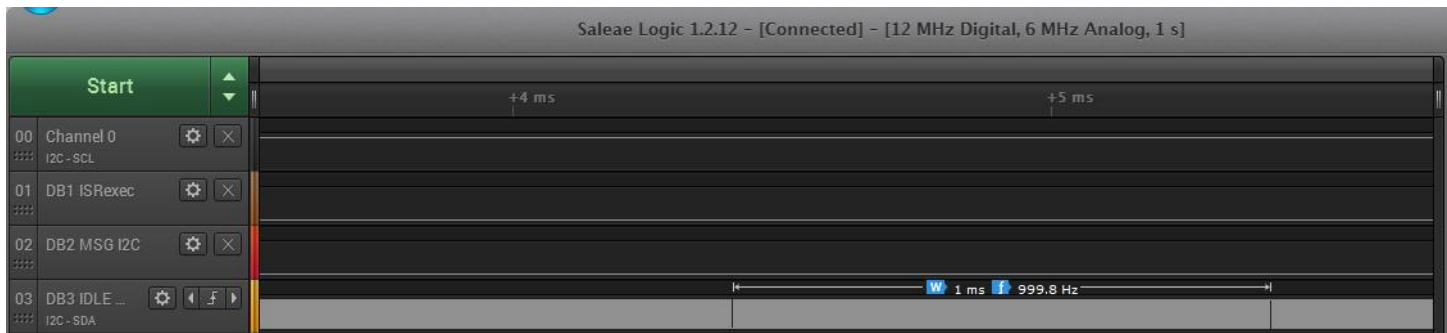

Figure 35 RTOS Timer Tick
- a. (From figure 35) Time taken to execute an ISR is 0.205 msec i.e **205usec**.
- a. The periodic Timer takes 1 msec which is same as for non-optimized mode as shown in figure 35.